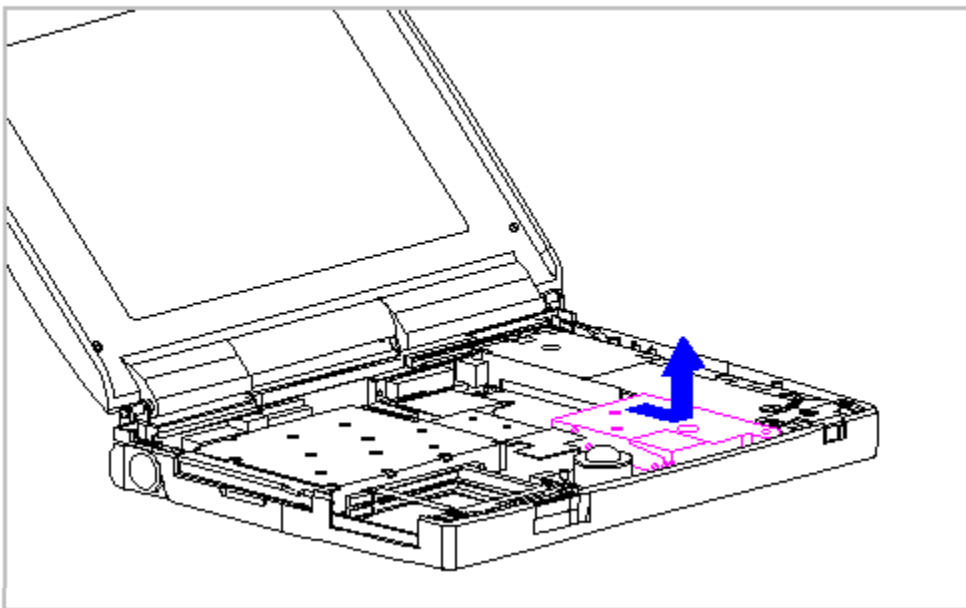

Figure 5-30. Disconnecting the Hard Drive from the System Board
4. Grasp the hard drive bracket and slide it toward the front of the computer to disconnect the hard drive from the system board . Then lift it up and out of the system chassis (Figure 5-30).